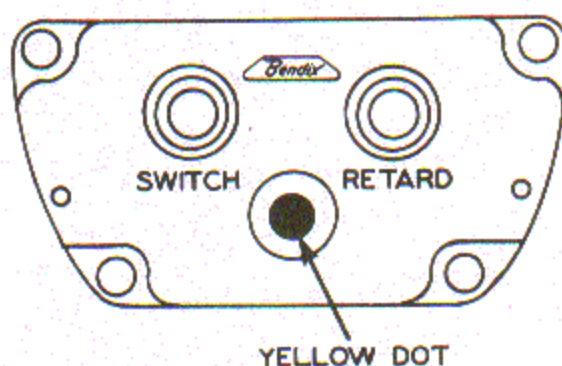

Figure 3
10. Identify magnetos with new capacitors by painting a  $\frac{1}{4}$ " yellow dot on the round raised portion in the center of the breaker cover, see figure 3.